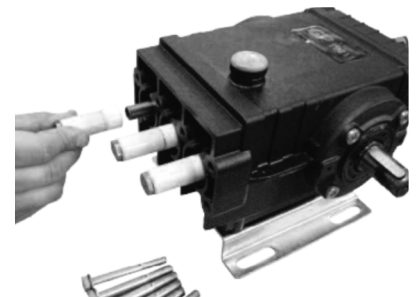

Fig. 8 — Plunger pulled from the piston rod; plunger bolts set aside.
- 3 Separate the plunger bolt from the old plunger (Fig. 8).